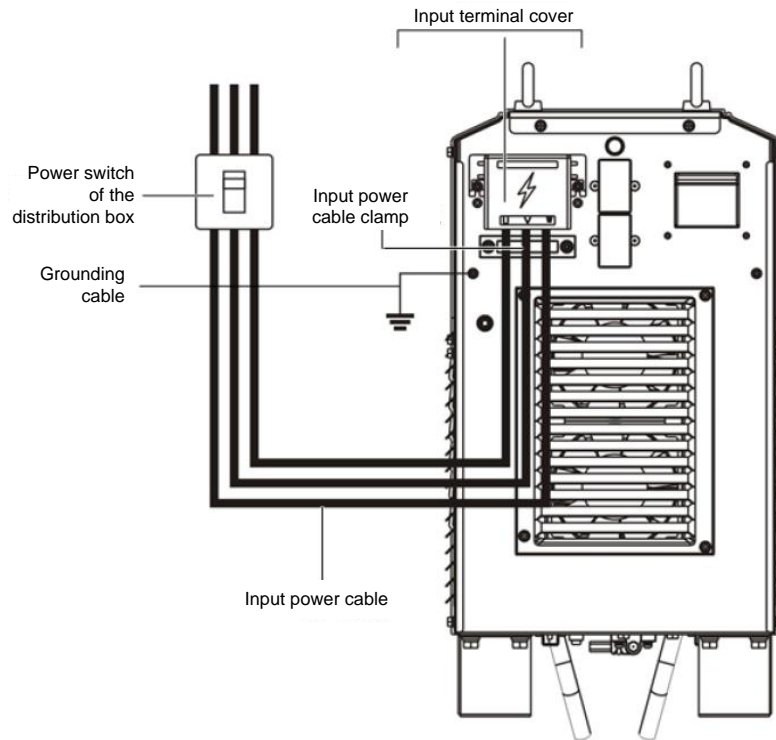

Figure 2-10 Schematic diagram of connecting the power cable on the power input side
2. Remove the input terminal cover. See Figure 2-10.